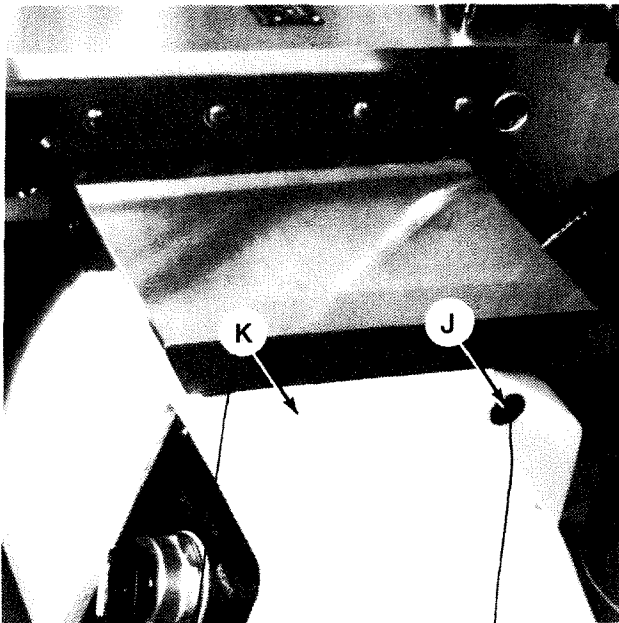

Figure 1.21 - Power Feed Control
23. Remove three bolts "J", Figure 1.21, and set power feed control housing "K" toward the rear of the coolant pan.
3. Remount power feed control housing "K" to the end of the bed using three bolts "J", Figure 1.21 .